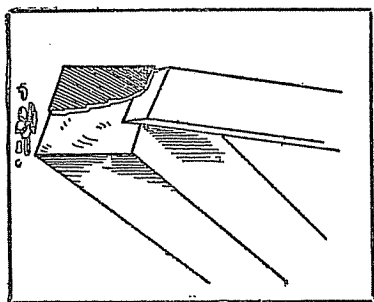
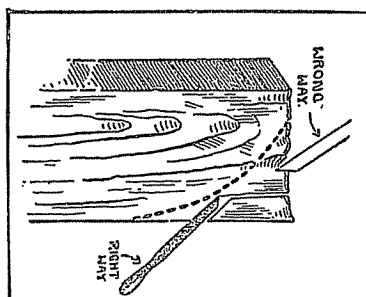

Fig. 7
Fig. 9
**ENDWOOD CHISELING.** It is necessary to use considerable force in endwood chiseling, sometimes called perpendicular chiseling. (See Figs. 7 and 8.) Consequently, only thin shavings should be taken off at a time. You may use a mallet, but considerable care must be used if you do so. It is important that your chisel should always be sharp. (See Fig. 9, showing the right and wrong method of perpendicular chiseling.)